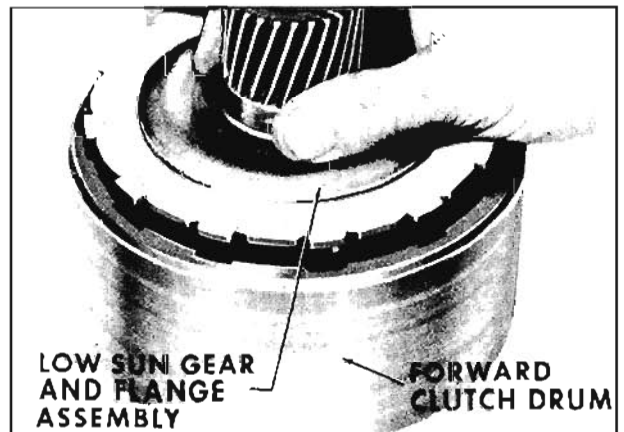

Fig. 6-369 Installing Low Sun Gear and Flange Assembly
11. Install low sun gear and flange assembly. (Fig. 6-369)